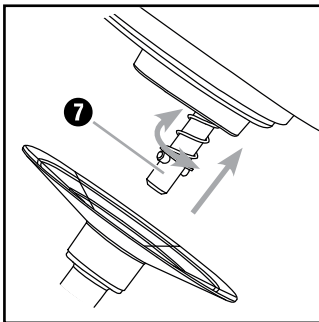

Fig. 1: Fitting the attachments
- 1) Press the release button ② . The swivel arm ① moves upwards.
- 2) Insert the mixing bowl ⑥ in such a way that the locking tabs on the mixing bowl ⑥ grip into the recesses in the base ⑤. Turn the mixing bowl ⑥ clockwise (see  and  symbols on the base ⑤) so that it is locked and firmly held in place.
- 3) Select the appropriate attachment ⑩ ⑪ ⑫:
- The whisk ⑪ for whipping cream.
- The beater ⑫ for stirring cake mixture.
- The kneading hook ⑩ for kneading heavy dough such as yeast dough.
- 4) Depending on what you want to do, attach the kneading hook **10**, whisk **11** or beater **12** to the drive shaft **7** (Fig. 1):